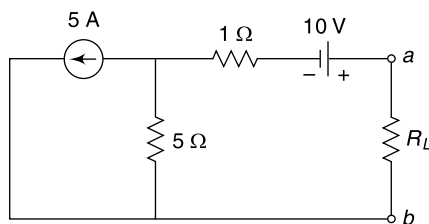

Fig. 4.118 Circuit of Ex. 4.87
4.87 Find the value of R_L for which the power transfer across R_L is maximum and find the value of this maximum power [Fig. 4.118].
Deactivating the sources the internal resistance of the network is found out looking back from the open circuited terminals of R_L [as shown Fig. 4.118(a)].